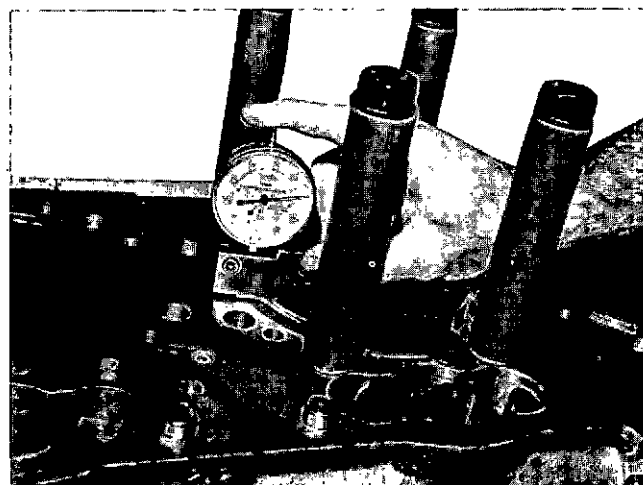

Fig. 14-1-12, V414114. Checking protrusion using ST-1005
b. Place ST-1005 Cylinder Hold-Down Tool Sleeve on cylinder block so foot of tool rests upon cylinder liner "fire ring." Secure tool to block with four capscrews; space capscrews so even load will be applied. Fig. 14-1-12.
d. Use ST-547 Gauge Block and check liner protrusion above the cylinder block at four equidistant points outside the bead. Fig. 14-1-12.
5. Install ST-1005 Liner Hold-Down Clamps at four equidistant points; torque capscrews to 50 ft-lbs [6.9150 kg m], check liner to block protrusion with ST-547 Gauge Block to determine if protrusion is uniform. Measure outside bead, Fig. 14-1-12. Remove clamps.